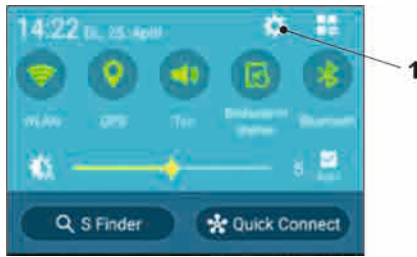

Fig. 31-2 Settings symbol
2. Use the “Settings” symbol (Fig. 31-2 no. 1) to open the according menu.